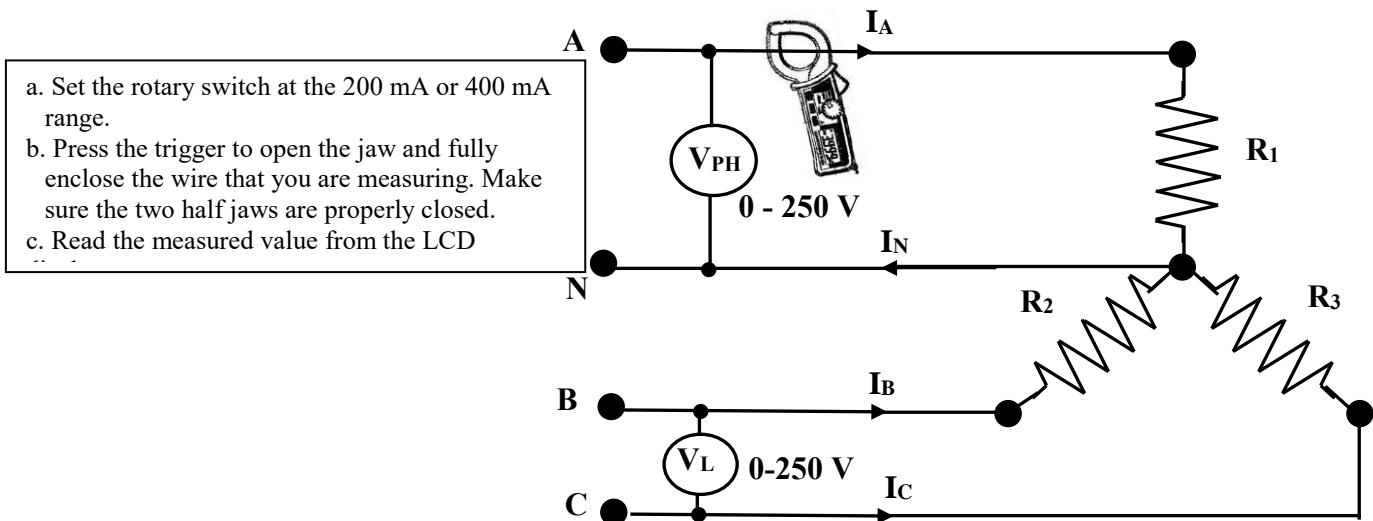

Figure 2
2. Connect up the circuit in Figure 2.